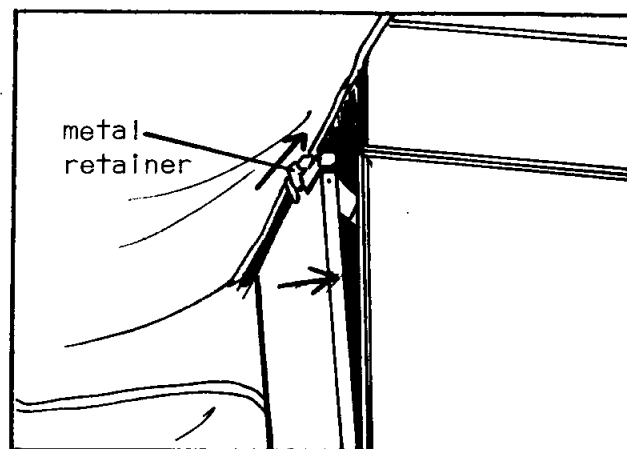

FIGURE 17
24. Secure this last section of wall in place by sliding the metal retainer around this wall section and the first one raised. See Figure 17. Do not raise upper wall or fasten metal retainer rods from roof to wall at this point.